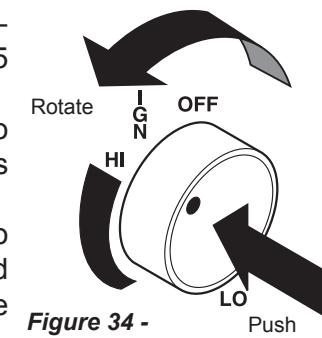

Figure 34 - HIGH Position
10. Push in control knob and turn counterclockwise ↗ to the HIGH setting. At this location the control knob will pop out when positioned correctly. The knob can now be positioned at any position between HIGH and LOW. *Figures 34 and 35*